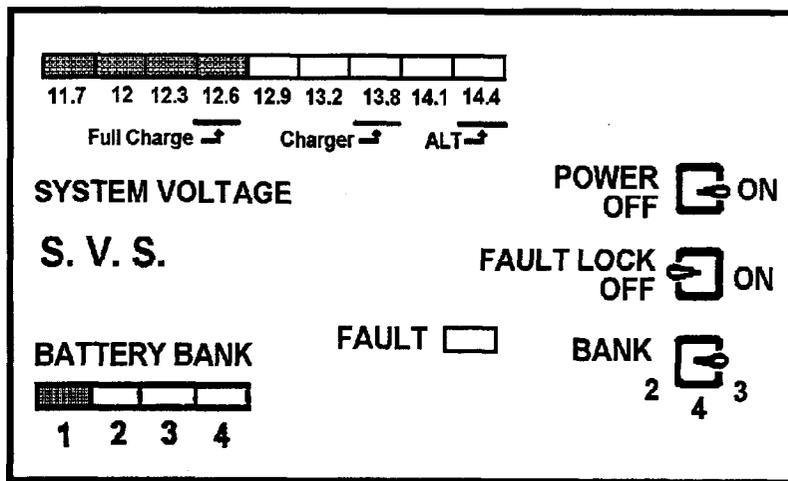

Figure 3-6. System Voltage Scanner
4. Using the SYSTEM VOLTAGE SCANNER feature of the Electrical Switchboard, see Fig 3-6.